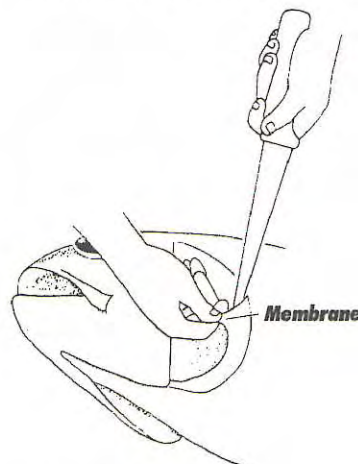

Figure 18. Trim the membranes lining the gill collar.
- Step 13** Remove the membranes from inside gill cover (Figure 18).